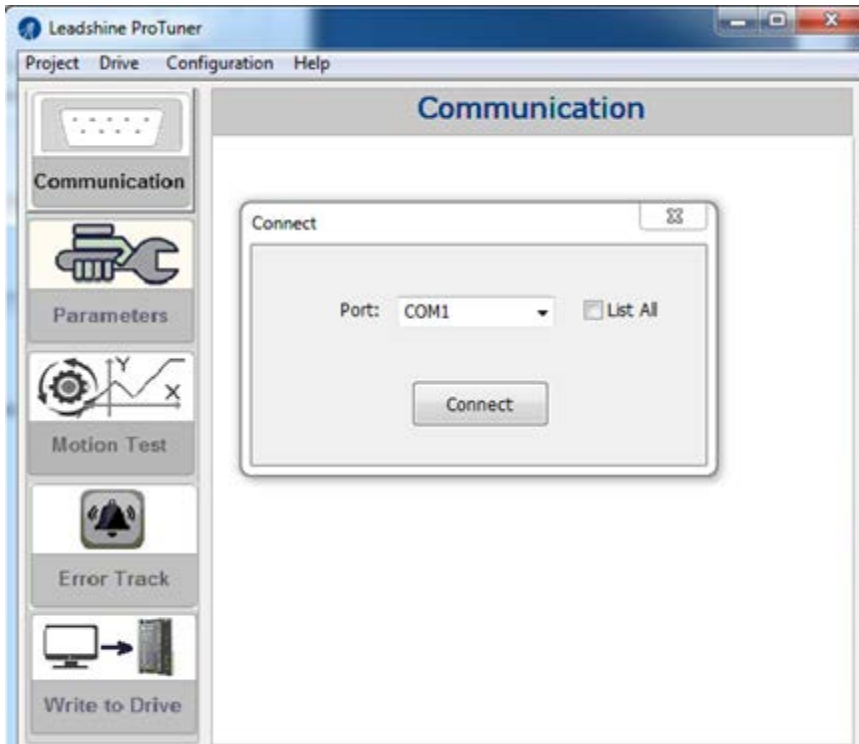

Figure 4: Communication screen
- Launch ProTuner for CS-D software, the “Communication” screen will display (Figure 4).